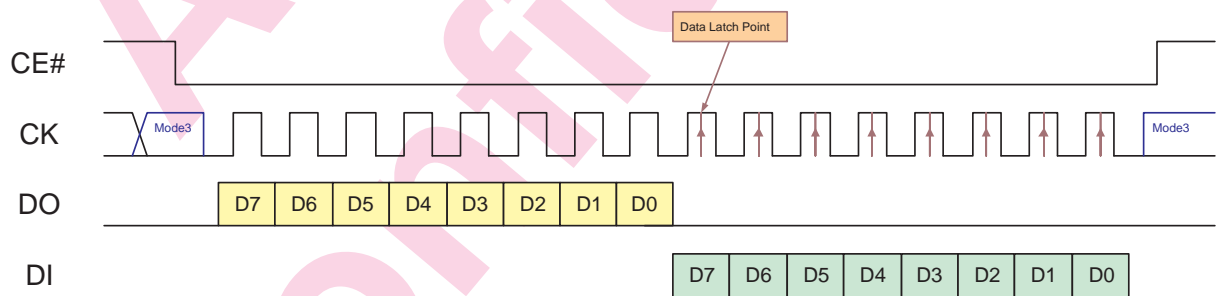

Figure 61: SPI Flash R/W Timing
- Figure 61: SPI type flash read/write timing